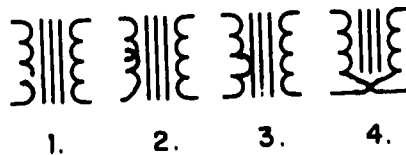

Fig 4-52. Shorted windings.
4. Two windings (primary and secondary) can short together (fig 4-52). This trouble is possible, of course, only in transformers.